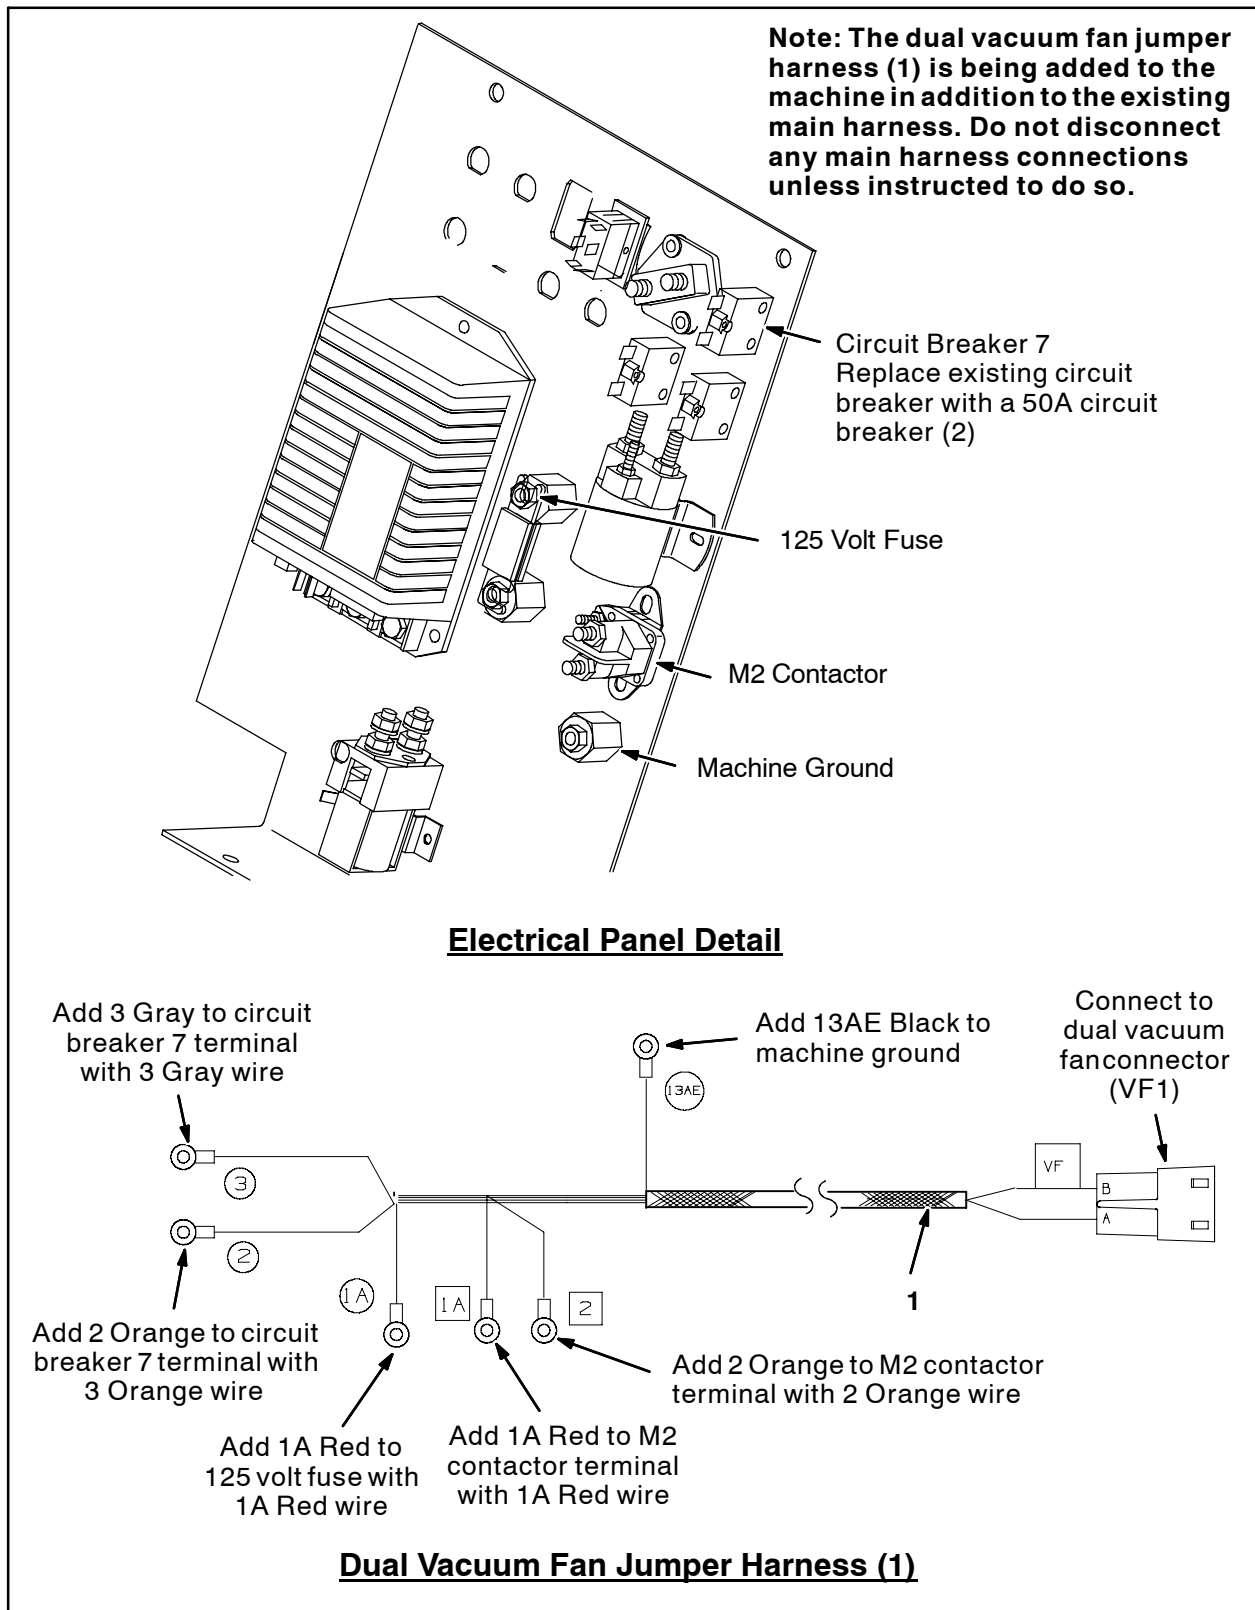

FIG. 4
1. Connect the dual vacuum fan jumper harness (1) to the dual vacuum fan VF1 connector previously connected to the main harness. Refer to Fig. 4.
6. Disconnect the main harness from the existing circuit breaker and remove the circuit breaker from the electrical panel. Set the hardware aside and discard the old circuit breaker. Refer to Fig. 4.
7. Install the 50A circuit breaker (2) onto the electrical panel. Refer to Fig. 4.
8. Connect both the main harness and jumper harness (1) to the 50A circuit breaker (2) installed in the previous step. Refer to Fig. 4.
9. Connect the jumper harness (1) to the M2 contactor. Refer to Fig. 4.
10. Connect the jumper harness (1) to the 125 volt fuse. Refer to Fig. 4.
11. Connect the jumper harness (1) to the machine ground. Refer to Fig. 4.
12. Use cable ties to secure the jumper harness (1) to the solution hoses located above the scrub head. The scrub head should not touch the harness when the scrub head is raised.